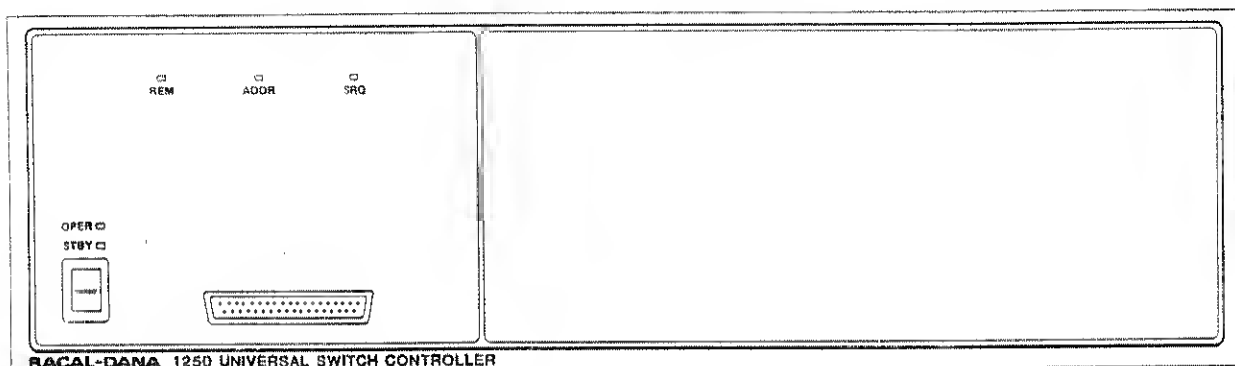

Figure 1-1, 1250 Front Panel
- 1.2.2 The 1250 is designed for use in automatic test systems, but local control of the switching system is supported by Option 90, which supplies an intelligent front panel with a display and keyboard. Refer to Figures 1-1 and 1-2 for illustrations of the 1250 front panel and Option 90, the intelligent front panel, respectively.